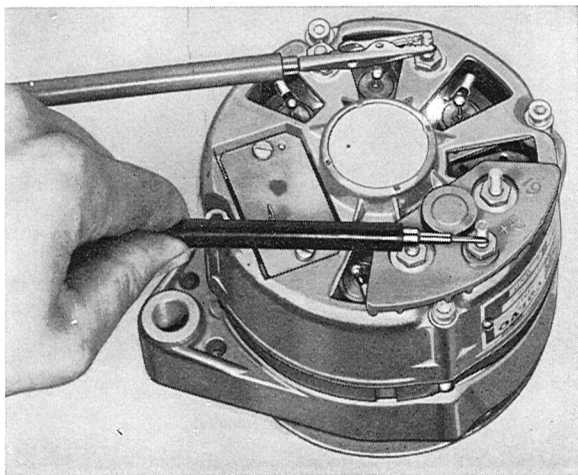

Fig. 3-19. Alternator test
7. Connect a test lamp between B+ and the alternator frame. Switch the connections. The lamp should light only in one direction, see Fig. 3-19. After any repairs, the alternator should be test-run in a test bench.